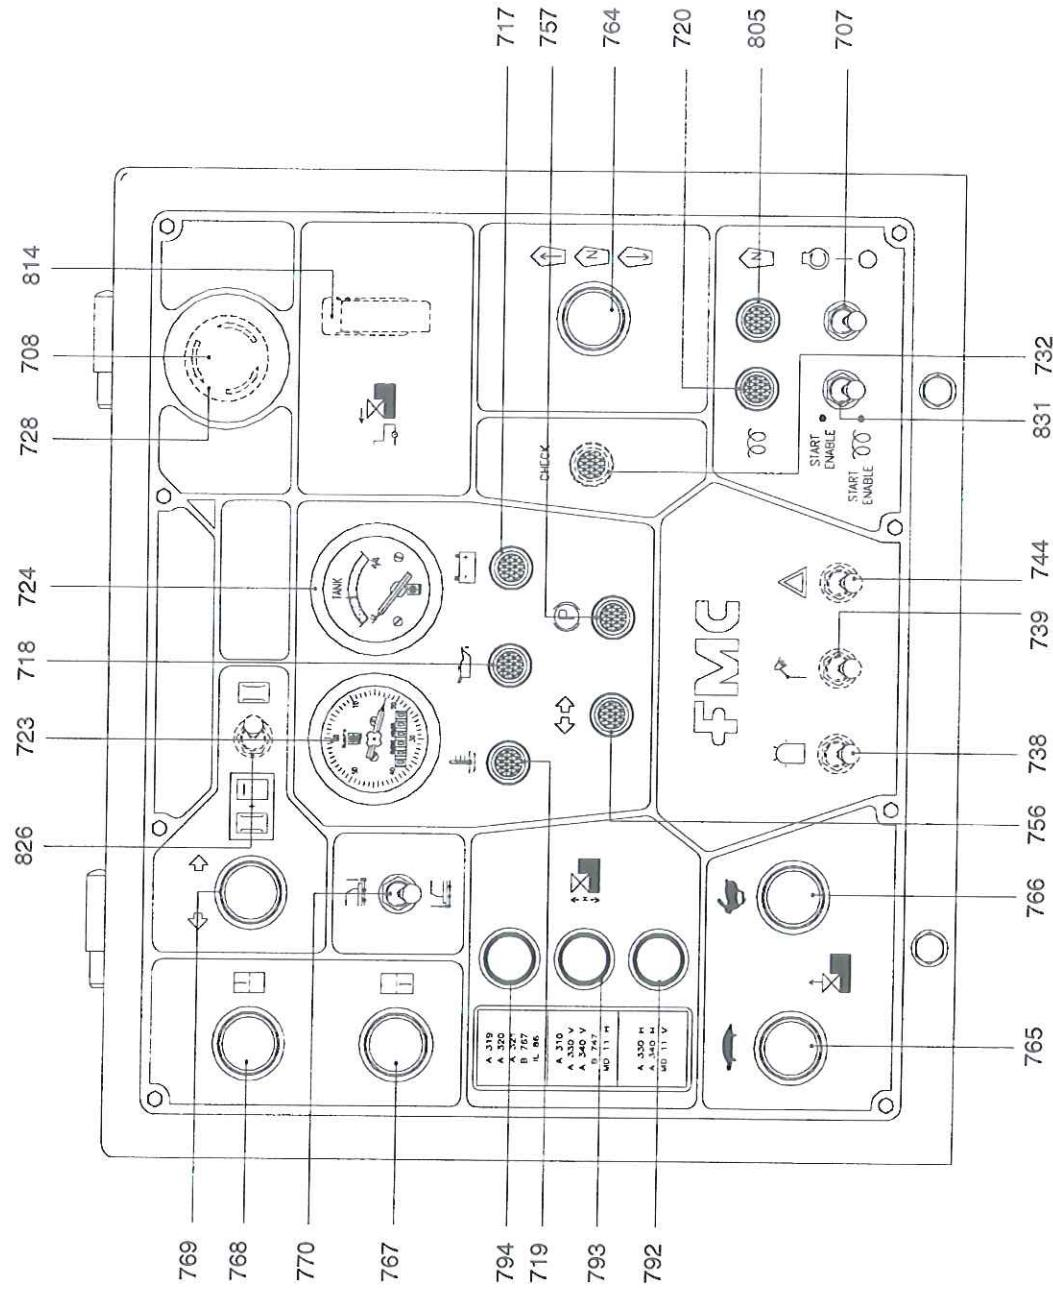

Figure 2
E. INSTRUMENTS AND CONTROL PANEL (SEE FIGURE 2)